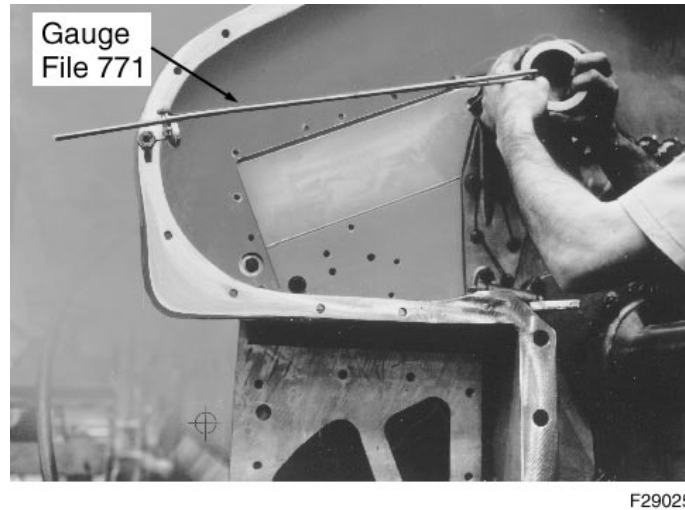

Figure 7-13. Camshaft Drive Housing Alignment
6. Install a locating pin in each side of housing, Figure 7-13, to act as positioning points for a dial indicator.
7. Install the camshaft drive housing alignment gauge (File 771) on the left bank camshaft stubshaft, and sweep the left bank locating pin, Figure 7-13, to establish a “zeroed” dimension on the dial indicator.